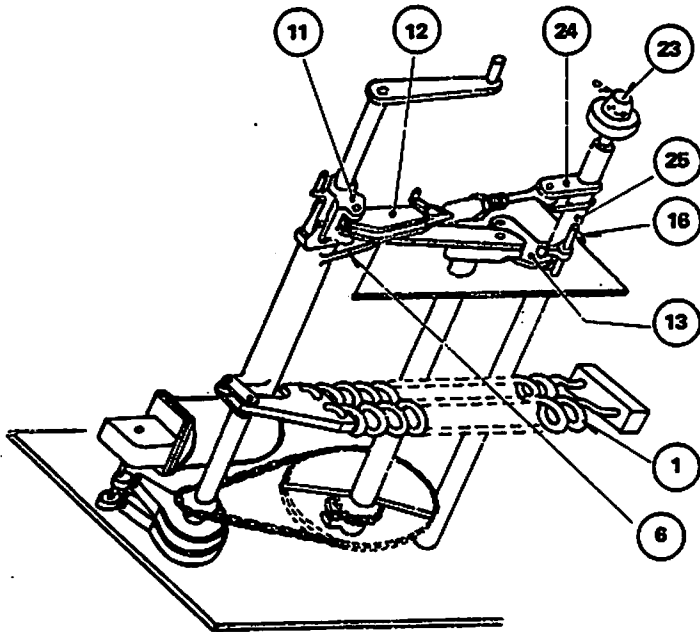

Figure 6b
7.2.2 Breaker Open — Closing Springs (1) Charged (Figure 6b)